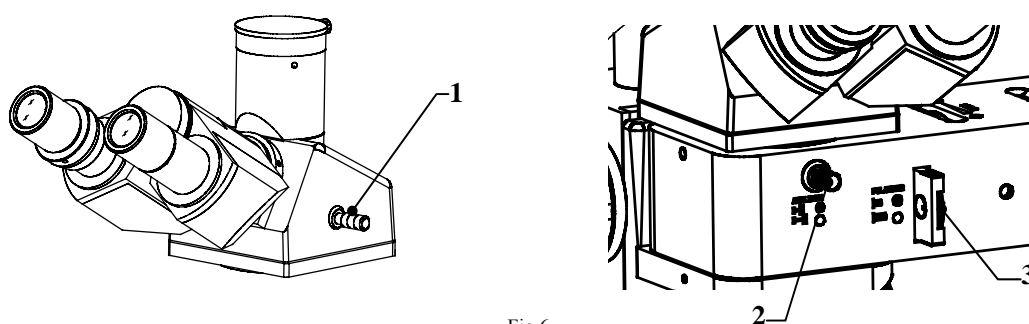

Fig.6
2. Check the position state of observation / photography switch pole 1. Push the pole in to observation with eyepieces, pull it out to photography. As shown in Fig.6.
3. Check the position state of analyzer pole 2. Pull the pole out optical path, as show the remark “ ○”. Check the position state of polarizer 3. Pull the polarizer out optical, as show the remark “ ○”. As shown in Fig.6.
Parallax can be eliminated by adjusting the interpupillary distance so that the distance of the eyepiece tube is identical with interpupillary distance and enable to observe more comfortably and clearly. When observe through two eyepieces, if the field of view consists of two overlapping circles, as shown Fig.6-a, alter the exit pupil center distance of the eyepiece tubes by turning the left or right frame body 1 until the field of view becomes a fully overlapped circle, as shown in